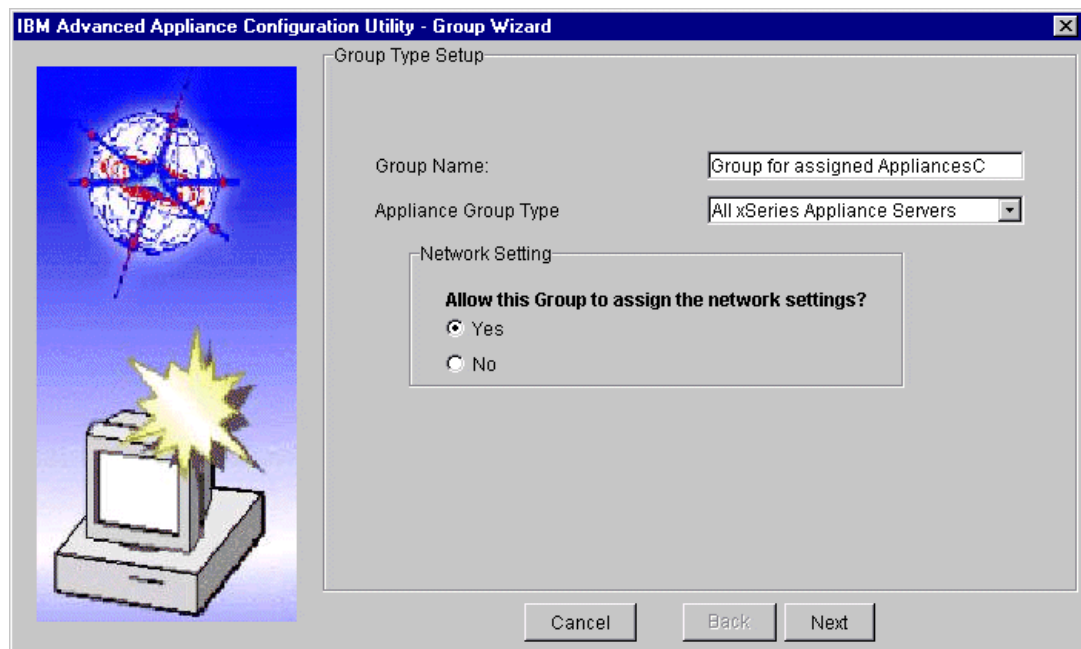
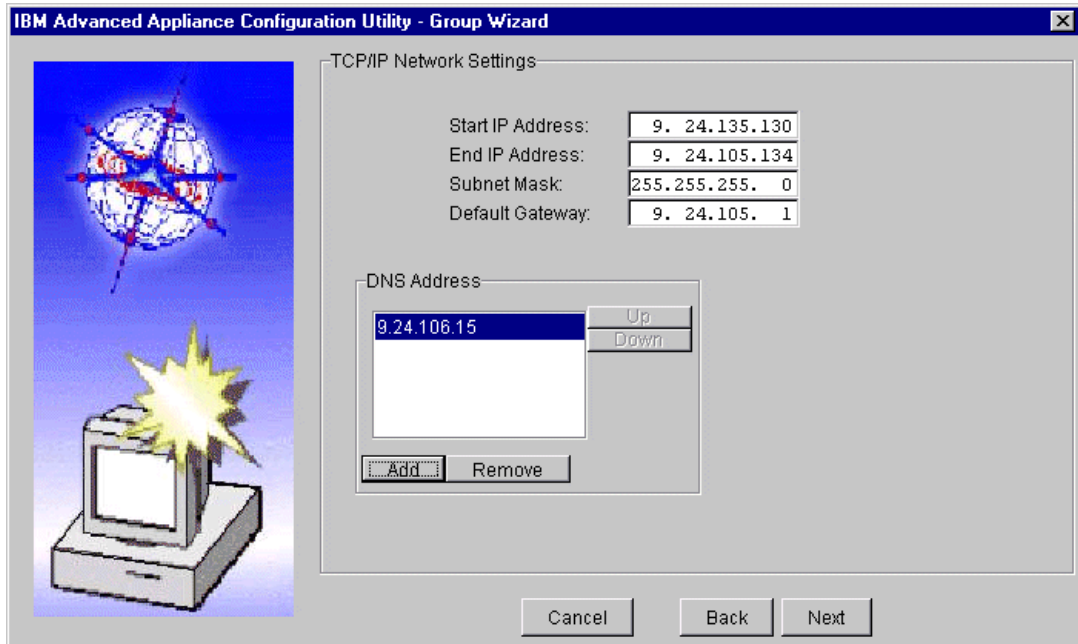

Figure 2-7 Group creation wizard- group type setup
Figure 2-8 Group creation wizard - TCP/IP network settings
2. Click **Group -> Create Group**, which starts the IAACfg Group Wizard window shown in Figure 2-7.
If you selected **No** under Network Settings in Figure 2-7, skip to step 9. If you selected **Yes**, you'll see the window shown in Figure 2-8.